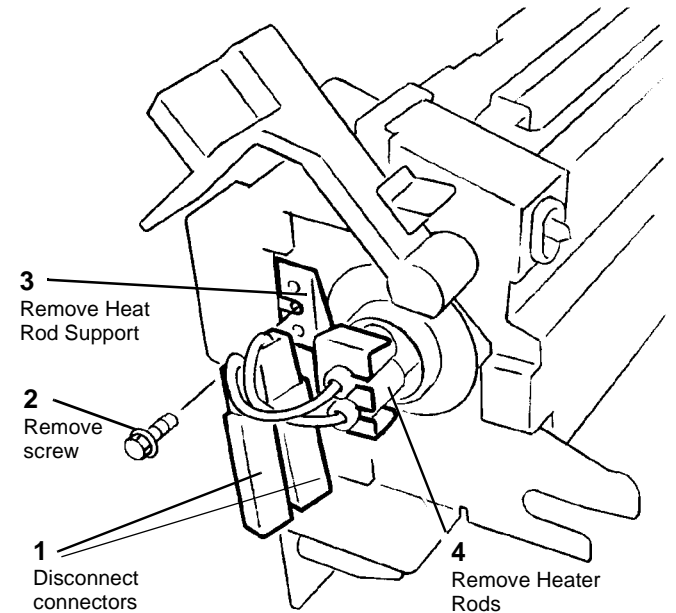

Figure 2 Removing Heater Rods
4. Remove Heater Rods (Figure 2).